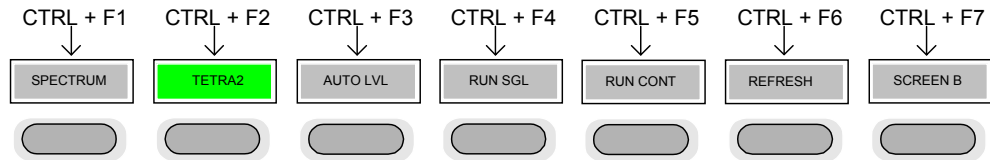

Fig. 4 Quick Access to Hotkeys
CTRL keys Used to activate hotkeys. Each of the seven hotkeys is allocated a different function (F) key. To access these hotkeys press CTRL and the corresponding F key together (see Fig. 4 ):